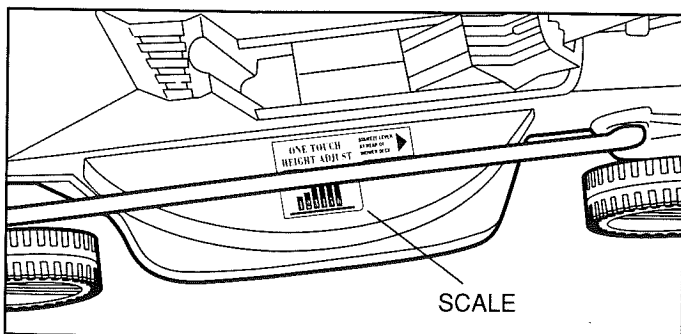

FIGURE 9
- The scale located on the side of the mower deck, as shown in Figure 9, shows 6 wheel height positions.